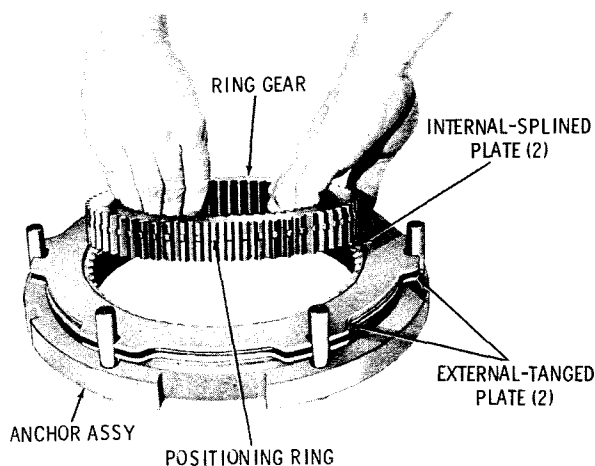
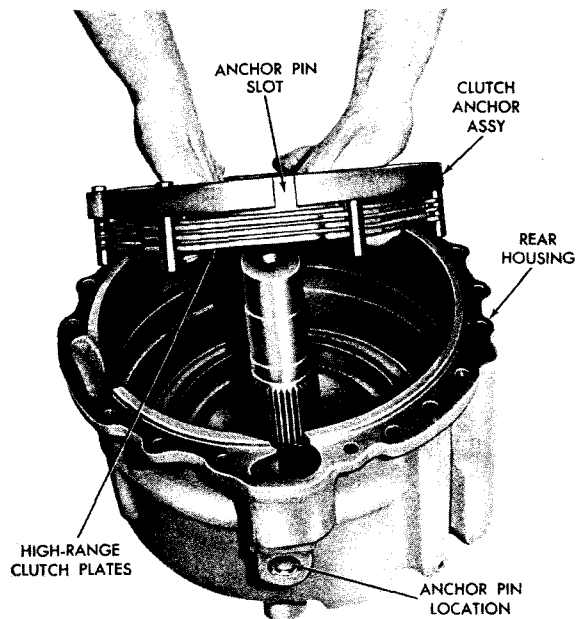

Fig. 7-26. Assembling high-range clutch and anchor (-3 overdrive model)
Fig. 7-27. Installing assembled high-range clutch (-3 overdrive model)
plate, install alternately two internal-splined and two external-tanged plates (fig. 7-26).
(5) Install the high-range planetary ring gear, longer ends of external splines first, into the internal-splined clutch plates (fig. 7-26).
(6) Install another internal-splined and another external-tanged clutch plate onto the assembly made in (4) and (5), above.
(7) Grasp the entire clutch assembly, invert it, and install it into the rear housing (fig. 7-27). Engage the slot in the anchor with the anchor pin in the housing.